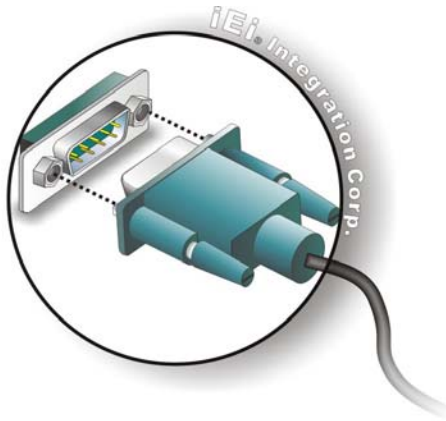

Figure 3-38: RS-232/422/485 Serial Device Connector
Step 2: Insert the serial connector. Insert the DB-9 connector of a serial device into the DB-9 connector on the external peripheral interface. See **Figure 3-38**.